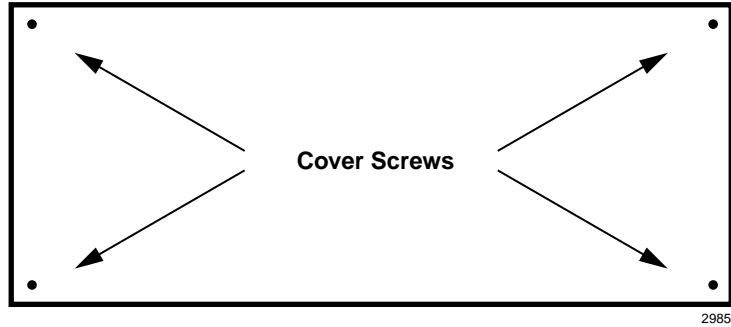

Figure 16-15 Location of Screws on the BSIA Cover
1. Remove the screws securing the cover of the BSIA (see Figure 16-15) and lift the cover off the BSIA.